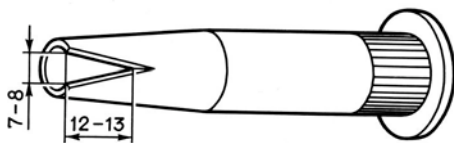

Fig. 8.6. Adhesive application nozzle
- unscrew the nozzle from the cartouche with adhesive and make a cutout in it (Fig. 8.6);